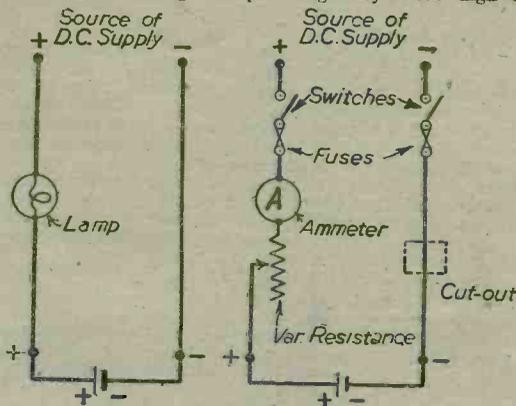

Fig. 4.—(a) The simplest type of charging board circuit, and (b) a standard arrangement.
Fig. 4 (a) represents the simplest possible type of charging board, the essential factors being (1) a source of direct current (free electron movement must be in one general direction); (2) a limiting resistance, which, in this case, is a lamp, and (3) the positive of the supply must be connected to the positive of the accumulator; similarly, negative to negative.
Fuses and switches in each lead (positive and negative), together with a cut-out, completes the "better-class" type of charging board; all instruments being connected in series. See Fig 4 (b).